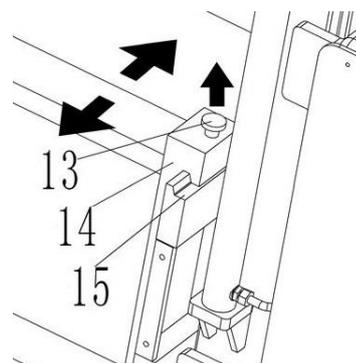

Fig.14: Move the forks
Park the truck securely and switch off the stacker with the key (8) and activate the emergency button (6). Open the battery cover and pull out the hinge, remove the battery cover. Unscrew and remove the battery baffle plate, pull out the battery plug (Fig.14), and take the batteries out with a crane. The installation is in the reverse order of the removal. Please connect the positive terminals firstly. Otherwise the truck could be damaged.